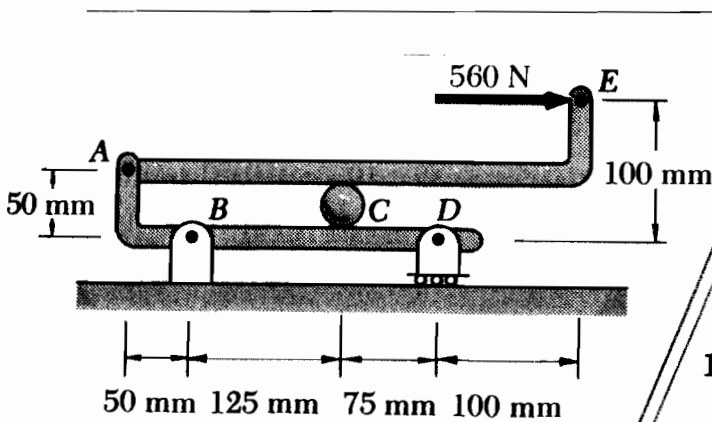

Fig. P1
- 1- Determine the components of all forces acting on member  $ABCD$  of the assembly shown in Fig. P1. [Sec. 6.6] (20 pts.)